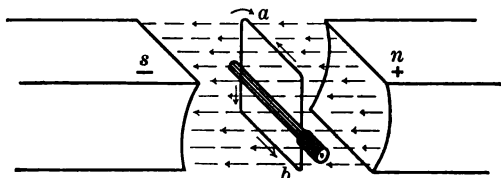

FIG. 210
**320. The Alternating Current.** — The *direction of the current* through a wire depends upon the *direction in which the wire is moving across the lines of force*. In Fig. 210 the direction of lines of force in the magnetic field is shown by dotted parallel lines; the coil of wire *ab*, which acts as an armature, is moving as shown by the curved arrow. As the portion of wire *a* moves